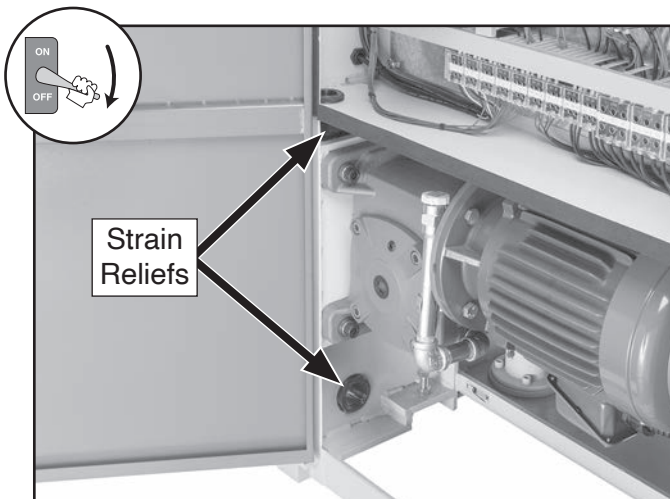

Figure 36. Strain relief and electrical cabinet.
3. Insert incoming power conduit through strain reliefs in electrical cabinet (see **Figure 36**).